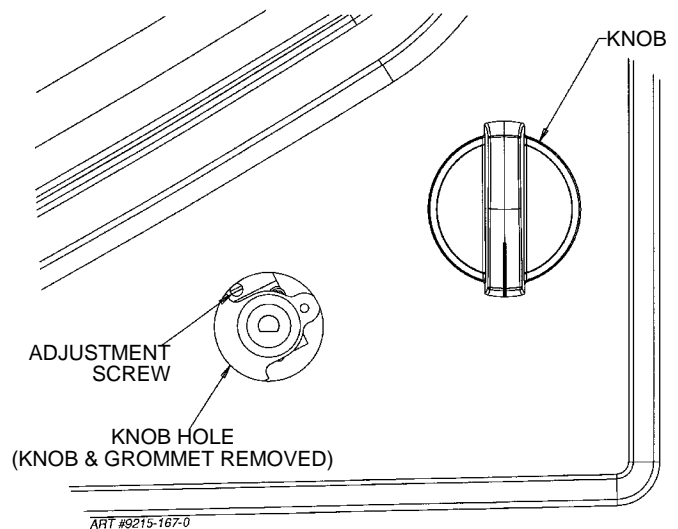

FIGURE 13
C. LOW FLAME ADJUSTMENT (See figure 13)
3. Locate the valve adjustment screw. See figure 13.
- Locate the valve adjustment screw. See figure 13.